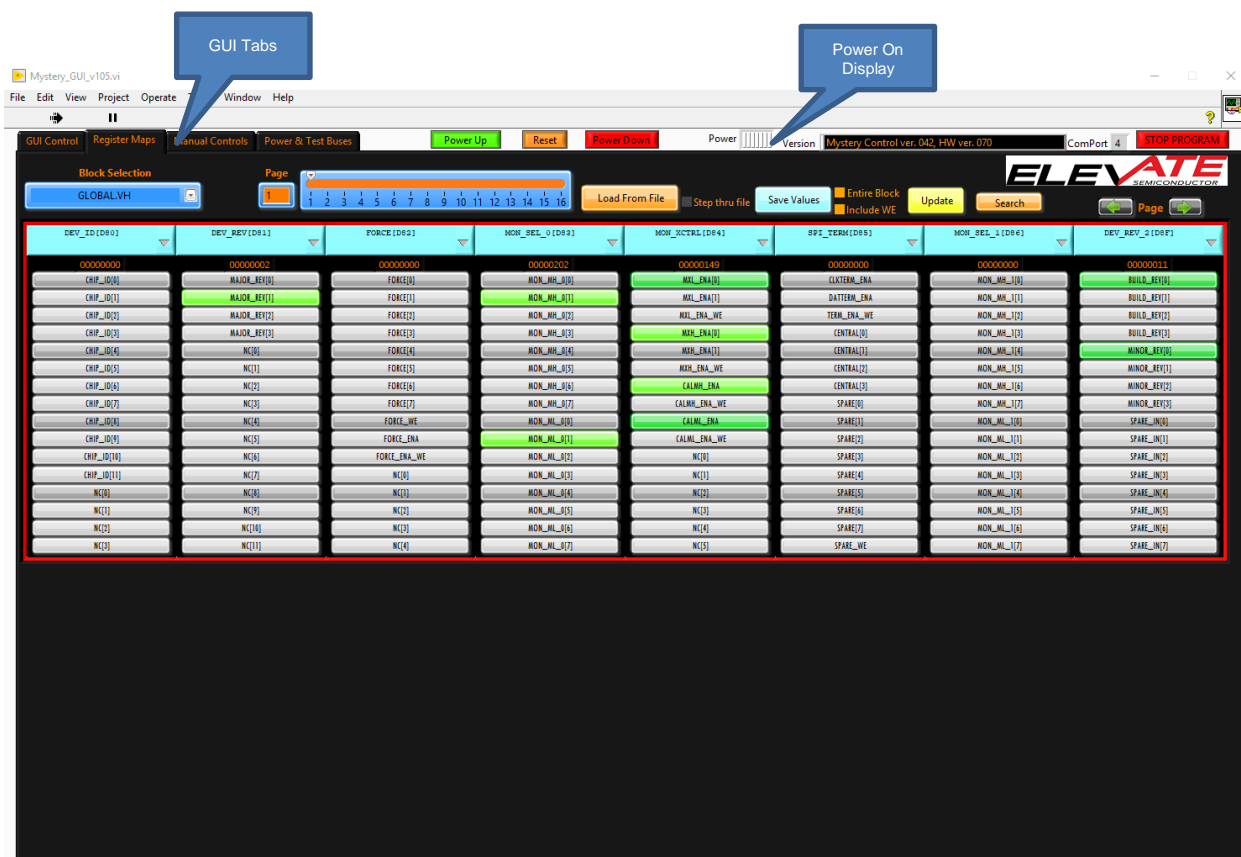

Figure 6: GUI Overview
1. Upon startup of the software (with the 1 of the power options connected) the EVM board is powered on, but the Mystery device will not be powered up. The EVM board contains DC-DC converters which supply power to the Mystery device. The DC-DC converters connected to the Mystery device are indicated on the “Power On Display” as shown in Figure 6. At this time, the power output bars will be uncolored. After powering up the Mystery device, these bars will turn green. (The power up sequence is shown below in Section 4: Powering Up and Powering Down the Mystery Device).